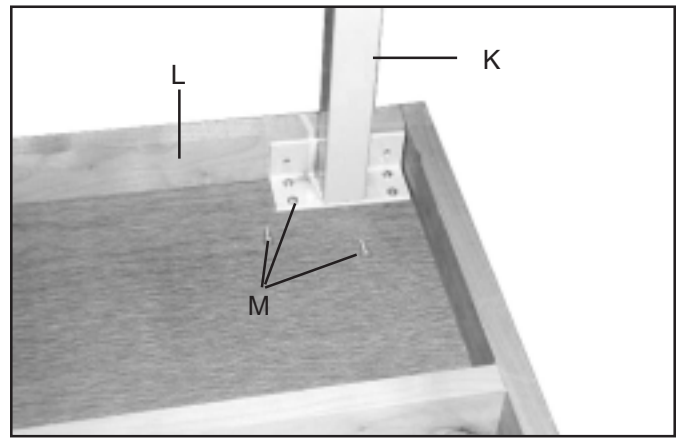

Fig. 19
10. Position table leg (K) to the closed in corner of the extension table (L), as shown in Fig. 19.
11. Attach the table leg (K) to the table board (L) with six 5/8" long wood screws (M). Repeat this process for the remaining leg.